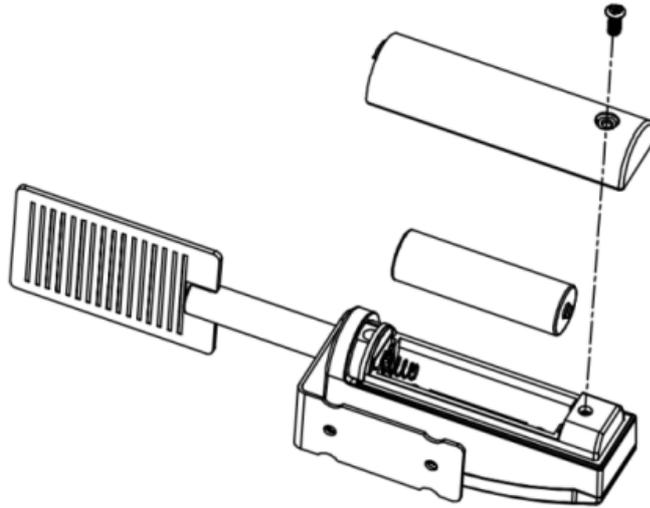

Figure 2: Inserting the battery
1. remove the battery compartment on the back of the transmitter by removing the screw (see figure 2) (**Make sure the rubber seal is intact when installing or removing the battery compartment**):